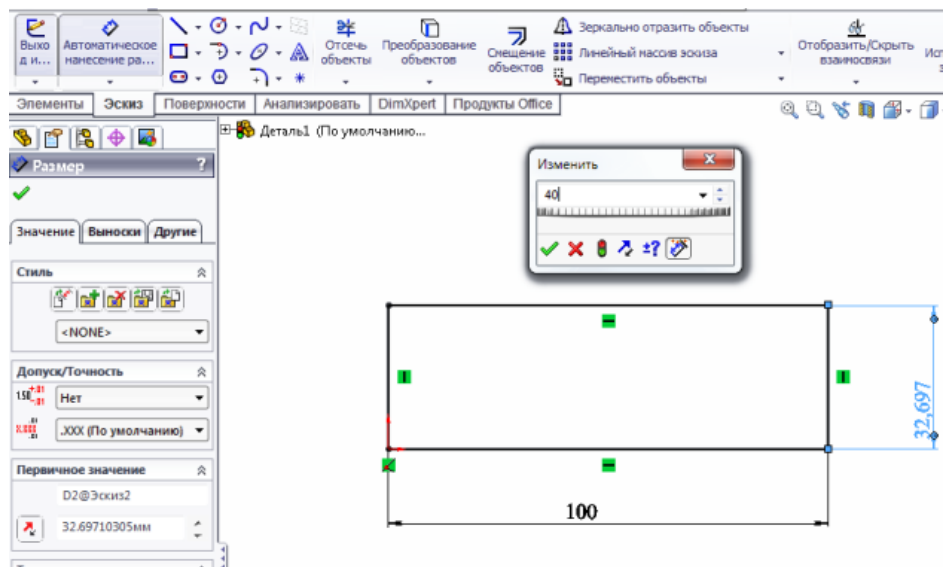

Figure 7.3 – Constructing a rectangle
7.2.5 In the upper part of the panel, click on the "Rectangle" tool , fix the first point in the center of the origin, draw a rectangle. The dimensions of the rectangle are as follows: length 100 mm, width 40 mm. To set these values, click on the "Automatic dimensioning" icon , we put down the dimensions. Upon completion, click on the "OK" icon . Then we exit the sketch by clicking on the arrow button in the upper right corner of the drawing (figure 7.3).